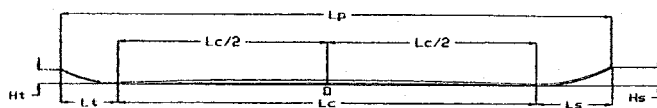

FIG. 1 Side View of Snowboard
**contact length**—the difference between the projected length,  $L_p$ , and the sum of  $L_t + L_s$  or  $L_c = L_p - (L_t + L_s)$  (Fig. 1).